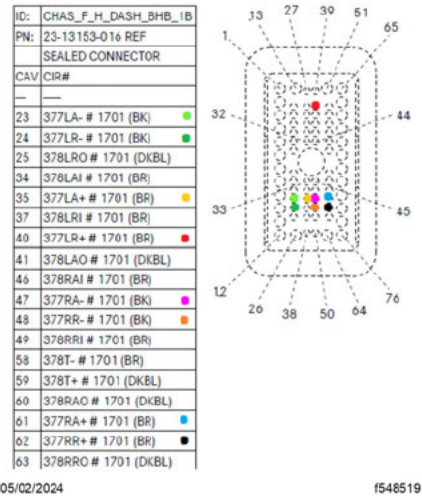

Fig. 6, BulkHead Connector BHB
j. Verify that the terminals are installed into the correct cavity of the 76-pin bulkhead connector BHB. See Fig. 6.